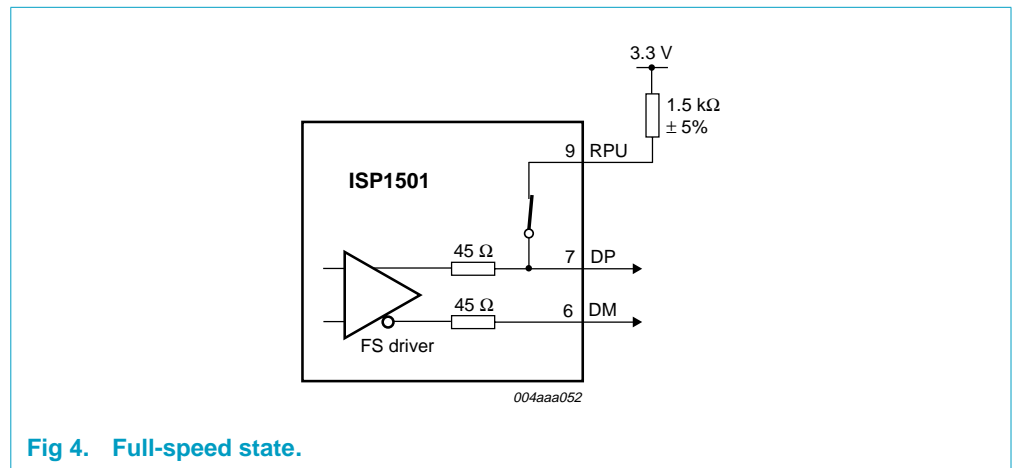

Fig 4. Full-speed state.
8.2.2 Full-speed (FS) state
In the full-speed (FS) state (MODE[1:0] = 01), an external pull-up resistor of  $1.5\text{ k}\Omega \pm 5\%$  is required on the DP line. This is implemented via the RPU resistor. The RPU resistor is internally connected to the DP line. The FS transceiver is enabled, and the legacy (Original USB) SIE interface is active (see Figure 4).